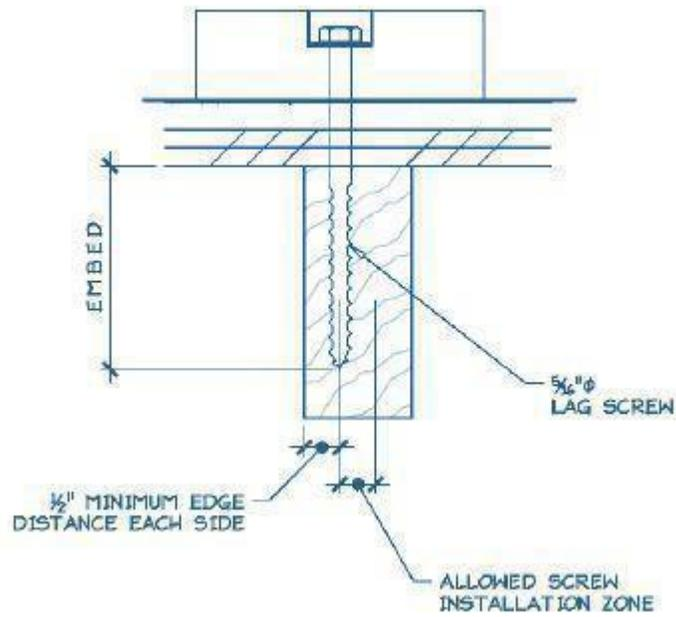

Figure 4 Typical Anchor with Lag Screw Attachment
Measured rafter horizontal span (see figure 4): ____’ - ____”
1. See Figure 4 for definition of roof rafter maximum horizontal span.